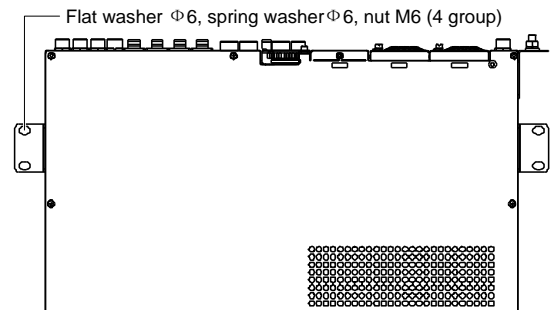

Figure 2-2 Fixing the power system
1. If wall-mounting installation is used, firstly remove the three brackets, turn the bracket with the grounding screw to make the grounding screw facing forward, and then fasten the bracket to the front of the subrack left side wall, meanwhile, respectively fix the other two brackets after rotation to the middle of the subrack left and right side wall. The position of the bracket is shown in Figure 2-2.
3. As shown in Figure 2-2, use four groups of flat washer Φ6, spring washer Φ6 and nut M6 to fix the power system on the wall.
5. If rack mounting installation is used, firstly remove the three brackets, turn the bracket with the grounding screw to make the grounding screw facing forward, and then fasten the bracket to the front of the subrack left side wall, meanwhile, fix any one of the other two brackets after rotation to the front of the subrack right side wall (the rest bracket is no need to be fixed). The position of the bracket is shown in Figure 2-2, use the fixing screws to fasten the subrack power system to the rack through bracket.